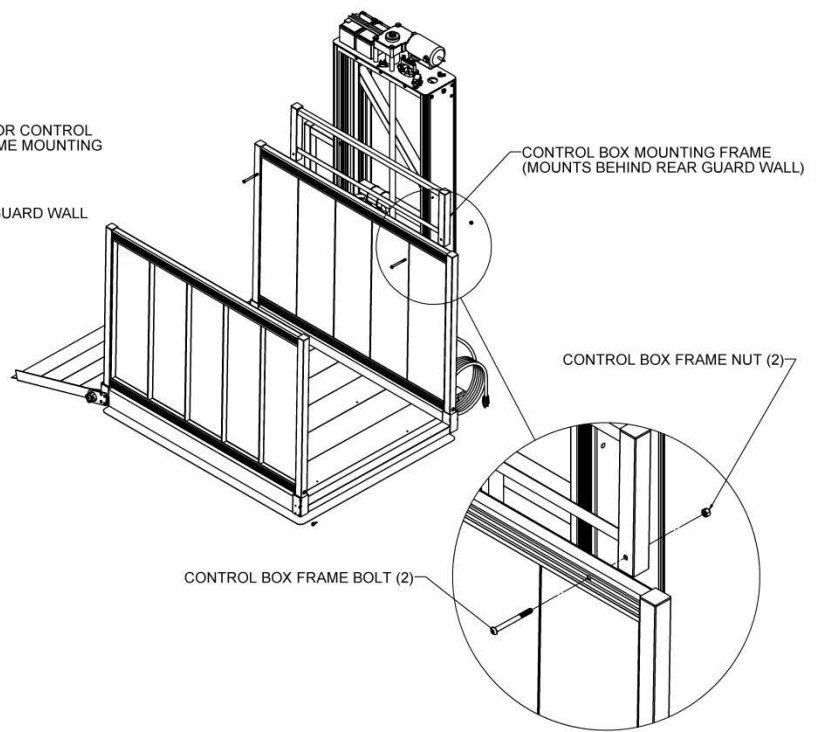

FIG. 4.7
- 👉 Make sure guard wall with two holes in top rail is installed closest to the tower as shown (FIG. 4.7).